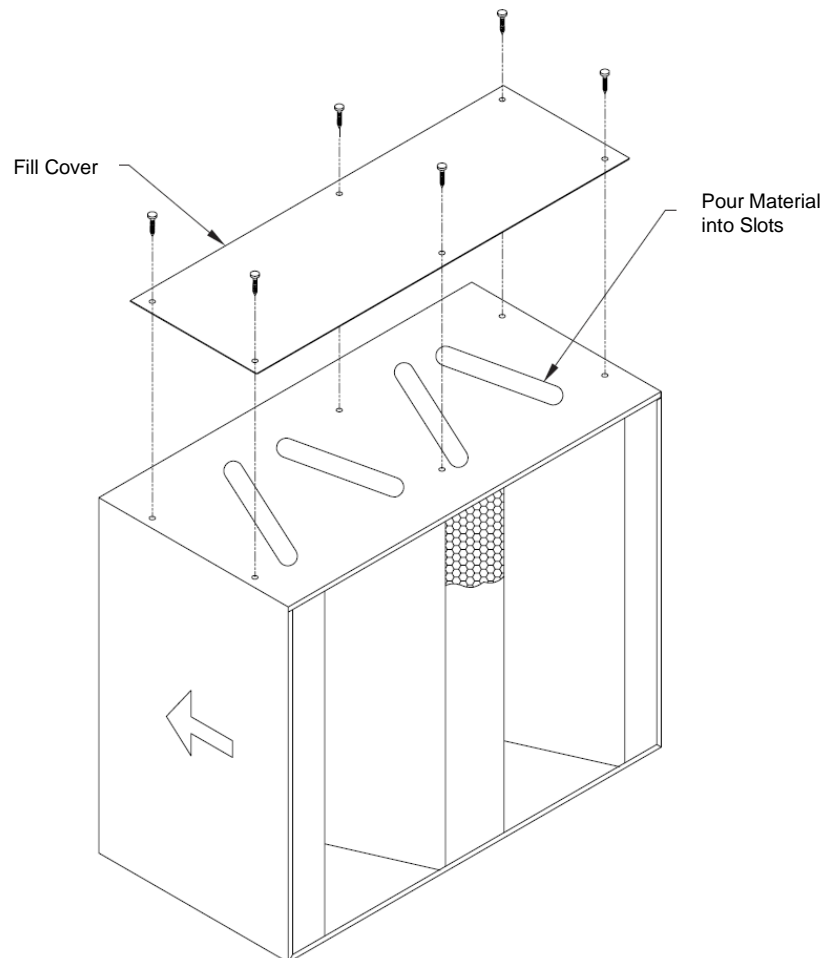

FIG. 5
2. Set module on a level surface. Remove fill cover by removing six #10-32 Phillip head screws that secure cover. Set cover aside (FIG. 5).